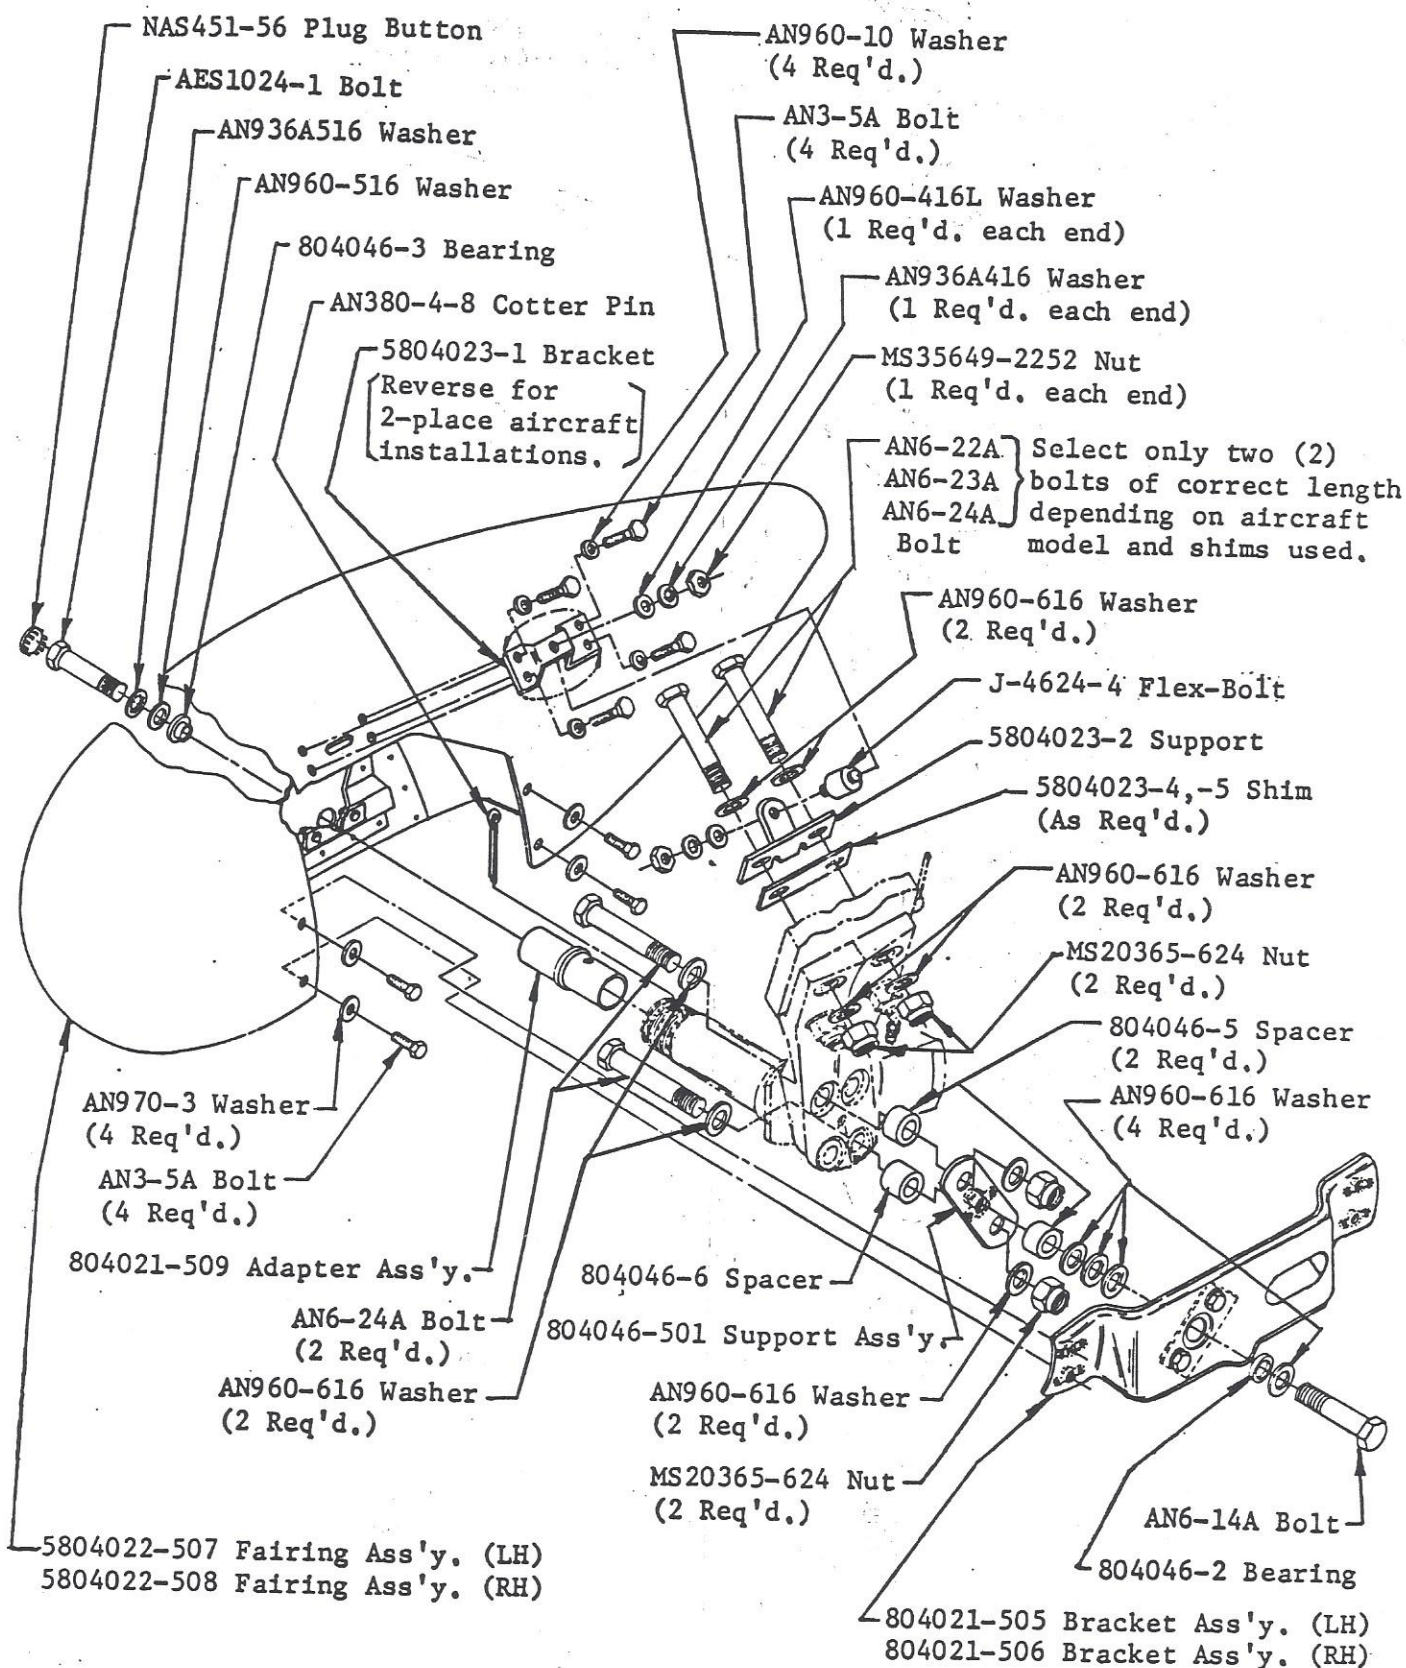

FIGURE 1. MAIN WHEEL FAIRING INSTALLATION
PART I. MAIN GEAR (FIGURE 1)
1. Remove three (3) Phillips head screws that attach hubcap/fairing. Discard these items.
2. Remove two (2) bolts holding brake halves together.
4. Remove two (2) bolts holding the brake torque plate to the axle forging and replace with AN6-24A bolts supplied with kit. Install 805046-5 spacer (upper), and 804046-6 spacer (lower) 804046-501 support assembly, (2) AN960-616 washers and (2) MS20365-624 nuts as shown in Figure 1. Torque nuts to 250-300 in. lbs.
6. Assemble the inboard swivel assembly as follows: Assemble an 804021-505 (LH) or -506 (RH), inboard support bracket assembly to the 804046-501 support assembly with an AN6-13A bolt. (2) AN960-616 washers (for two-place aircraft), or (4) AN960-616 washers (for AA-5 aircraft), and an 840046-5 spacer as shown in Figure 1.
7. Loosen scraper on wheel fairing assembly and slide to the full aft position. Install fairing on aircraft using four (4) AN3-5A bolts with four (4) AN970-3 washers to attach the lower inboard side to the inboard support bracket assembly and one (1) AES1024-1 bolt with AN936A516 washer, an AN960-516 washer and an 804046-3 bearing on the outside. Torque bolt to 100-140 in. lbs.. Snap NAS451-56 plug button in place.
8. Assemble the upper flex mount assembly as follows: Assemble the J-4624-4 flex bolt to the 5804023-1 bracket with an AN960-416L washer, an AN936A416 washer and an MS35649-2252 nut as shown in Figure 1. Assemble the other end of the flex bolt to the 5804023-2 support using the same washers and nut.